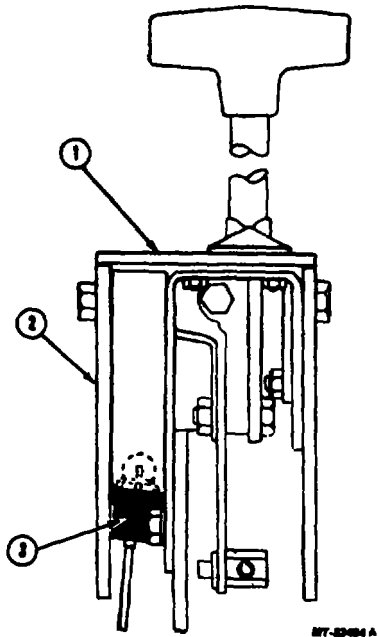

Fig. 20 Automatic Transmission Control Light
1. Grasp light socket and disengage socket from hole in control housing. DO NOT pull on wire to remove socket. (See Figure 20).